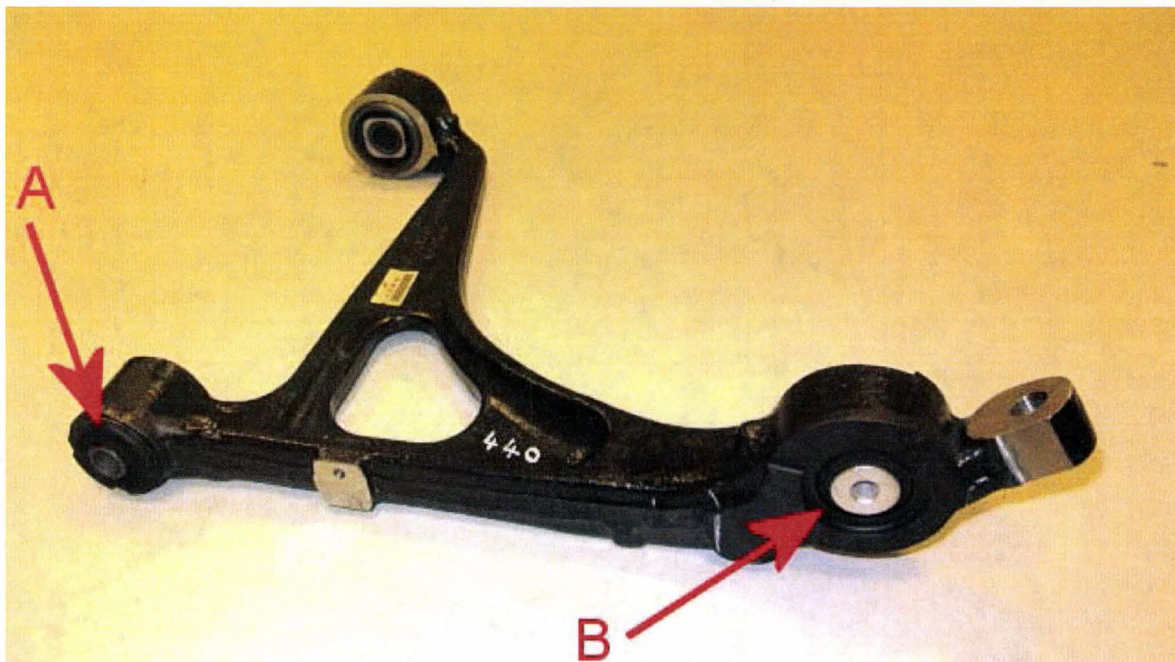

Figure 10
- Visually check the condition of the two remaining lever bushes as shown in Figure 10 point A and B, these should only be replaced if worn or damaged.